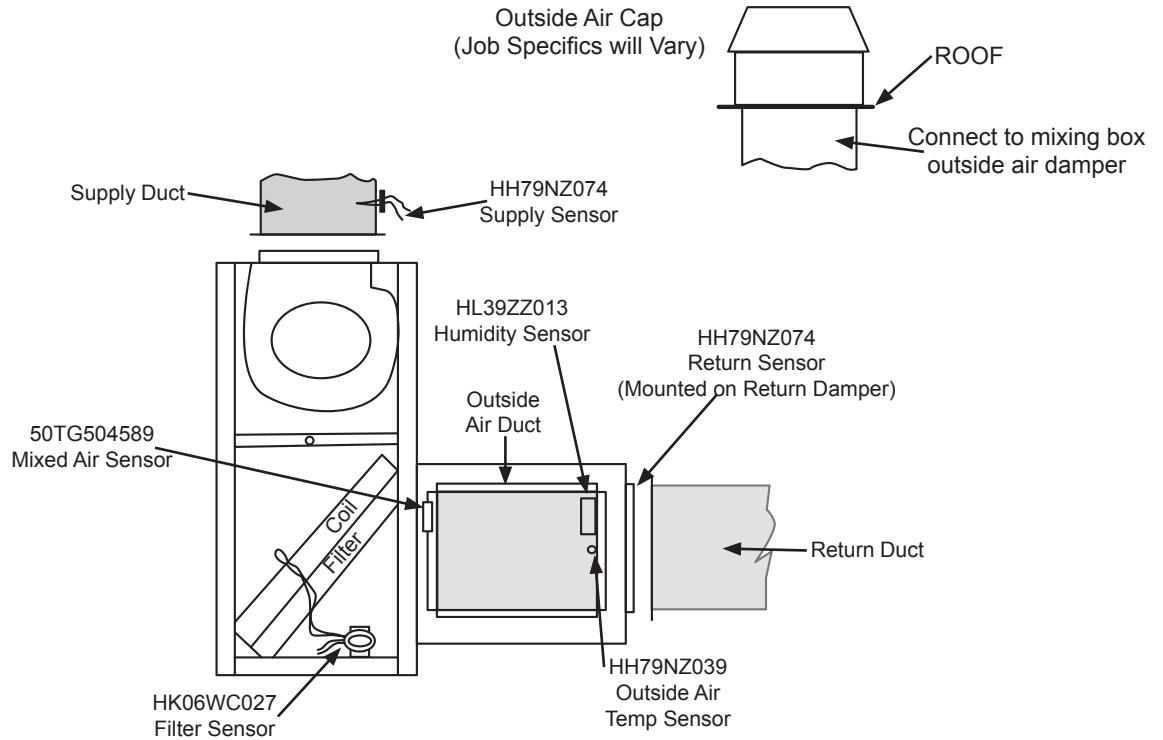

Fig. 5 – Vertical Application
Determine the desired location for the supply air temperature sensor, which should be roughly 10 feet from edge of air handler. Drill a 1/2" diameter hole in the middle of the supply duct. Route sensor wiring outside of unit and duct as shown in Fig. 5 and 6, making sure access doors are not covered and mixing box damper operation is not obstructed. Secure all wires in place. Insert sensor probe into 1/2" diameter hole and secure with (2) screws.
Determine desired location for the filter pressure sensor, see Fig. 5 and 6. Route sensor out the back side of the mixing box and into the air handling unit as shown in Fig. 5 and 6, making sure mixing box damper and air handling unit operation is not obstructed. Secure all wires in place. Screw sensor to inside of unit as shown in Fig. 5 and 6.
Attach 32" long plastic sensing tube to the positive side of the sensor and route tubing behind filter as shown in Fig. 5 and 6. Attach 32" long sensing tube to negative side of the sensor and set in place in front of filters. Secure tubes in place to make sure they do not interfere with the operation of the air handling.